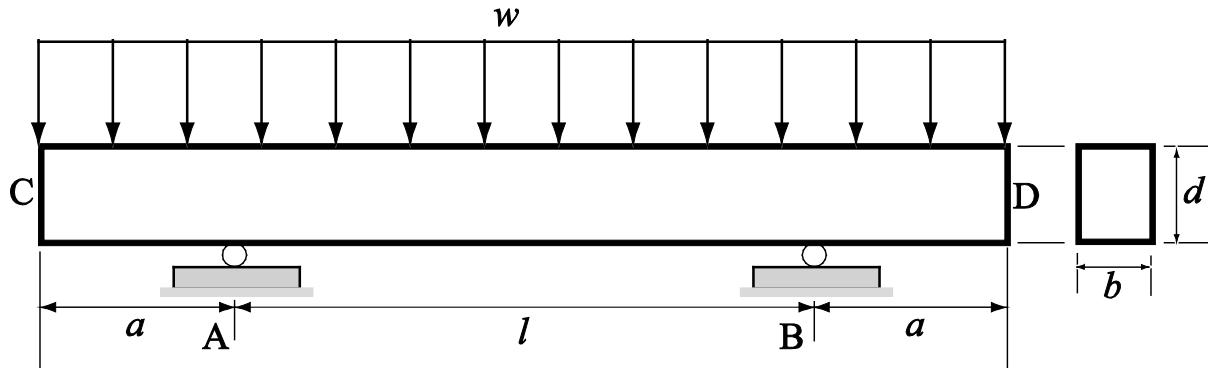

Figure Q2
- Q2.** The 304 stainless steel beam ABCD is subjected to a uniform load w as shown in Figure Q2.